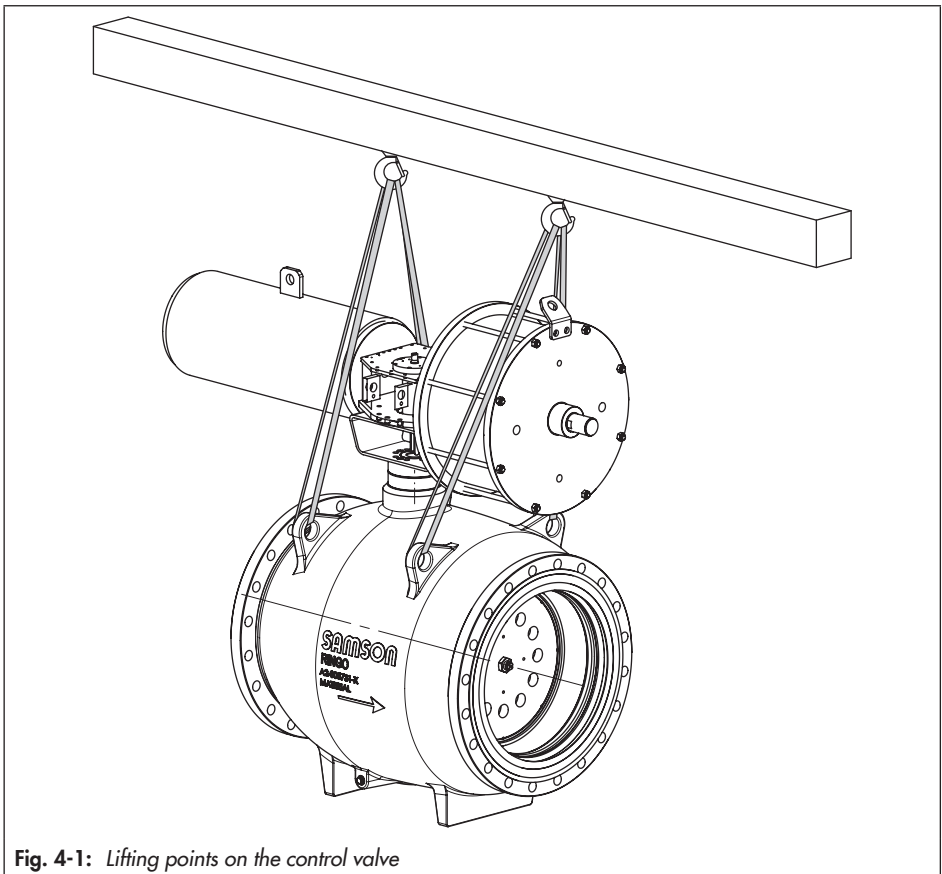

Fig. 4-1: Lifting points on the control valve
- Use a hook with safety latch (see Fig. 4-1) to secure the slings from slipping off the hook during lifting and transporting.
1. Attach one sling to the transport eyelets on the valve body and to the hooks on the crossbeam (see Fig. 4-1).